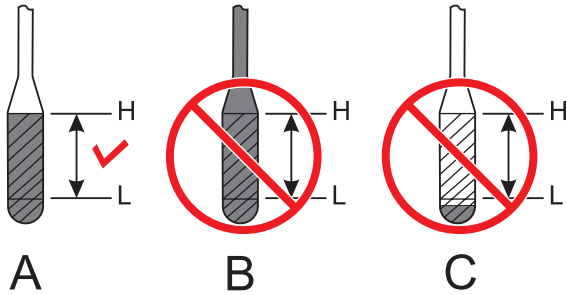

Figure 16. Engine Oil Dipstick
2. Remove the engine oil dipstick (Figure 16) from its holder and wipe it clean.
3. Reinsert the dipstick, then remove the dipstick from its holder. Check the oil level shown on the dipstick (Figure 16).